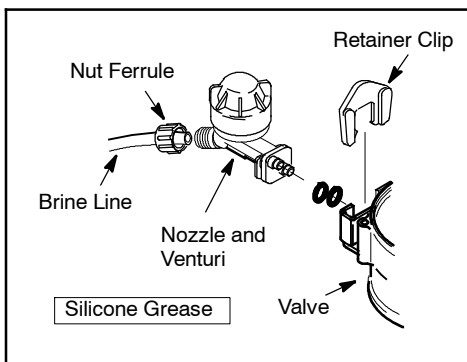

Figure 4
9. Remove brine line by loosening the nut ferrule on the end of the nozzle and venturi assembly. **Figure 4.**
12. With all o-rings (lubricated with silicone grease) and the top distributor in place in the top of the tank, check the riser pipe length. It should be about even with the top edge of the top distributor. **Figure 4.**